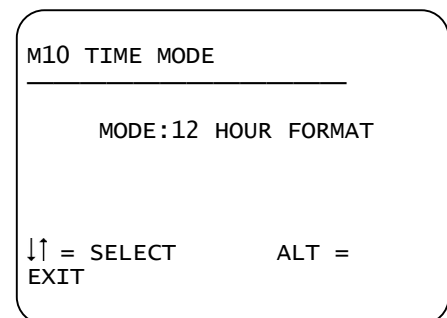

Figure 15. Time Mode menu
- 1) Press **4** to advance to the Time Mode menu (Figure 15).